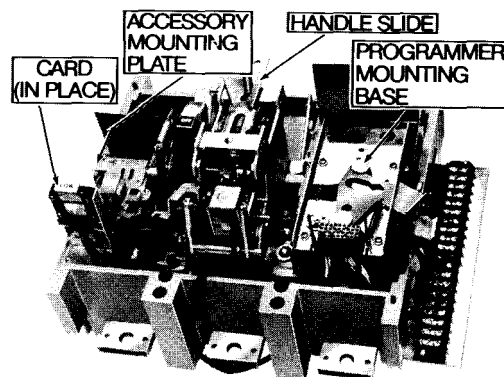

Figure 14. Cover and Programmer Removed
2. Remove the (4) cover mounting screws and remove the top cover. On MOM breakers, remove only the top cover to replace/change the tap changer card.
3. Withdraw the HIGH (LOW) CARD from the tap changer support and install the LOW (HIGH) CARD. The print on the top of the card should be oriented the same as the breaker cover nameplate (refer to Fig. 6 and Fig. 14).